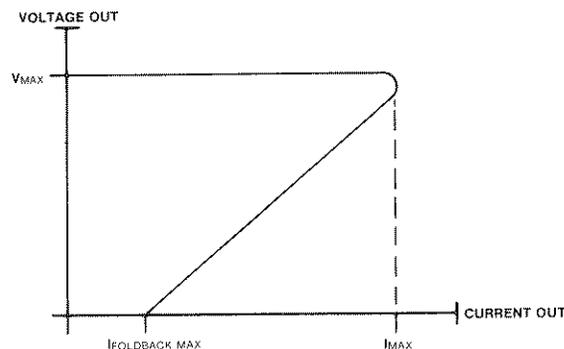

Figure 12A-3. Foldback Current Limiting
**12A-20. PWM CURRENT LIMITING.** This power supply uses fold-back current limiting (figure 12A-3). The actual current limit value is determined by sensing the DC voltage developed across the internal resistance of T6 pins 2,11 and 3,10 (T6 contains six internal inductors). Current limiting of the -5.2V supply works by developing a voltage across C20 that is equivalent to the maximum load current times the internal resistance of T6 pins 2,11 and 3,10. The voltage across C20 is then compared to the reference voltage at pin 15 of U5. The foldback of the maximum current limit value is determined by the decrease in the voltage across R17. When the voltage across R17 decreases, the voltage required across C20 also decreases. The decrease across C20 causes the PWMs internal comparator to go more positive and reduce modulation until the -5.2 output voltage across R16 increases, allowing C20 to charge to the value of the reference voltage.